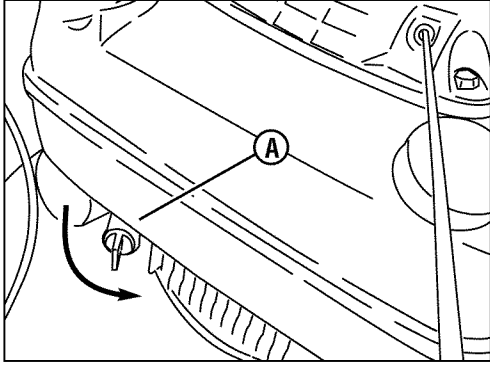

Figure 5: Fuel shut-off (Kawasaki engine only)
1. (Kawasaki Engine only) Make sure the fuel valve (**A**, **Figure 5**) on the engine is open.